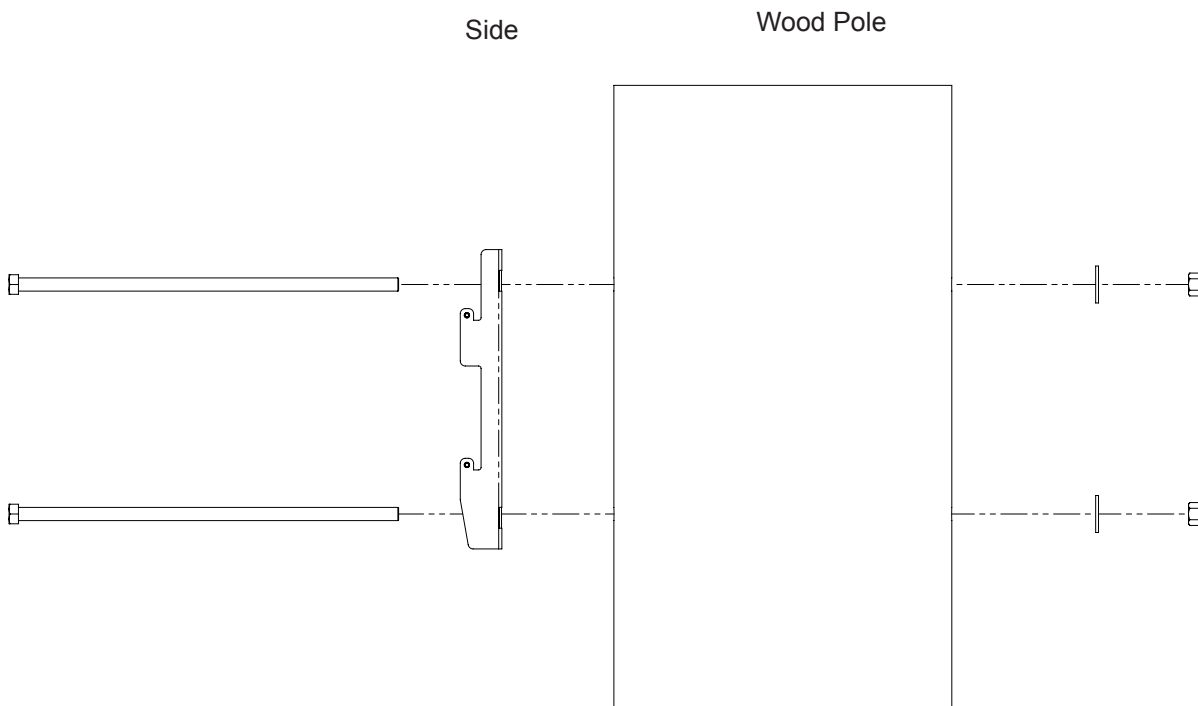

Figure 8 — Mounting to a wooden pole
2. Secure the mounting bracket to the pole with the machine bolts as show in Figure 8.